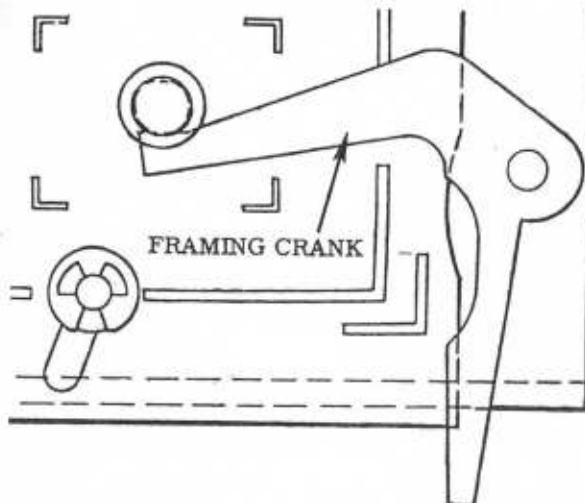

Figure 1-7A. FRAMING CRANK POSITION
c. Place framing crank on same stud. (Position as shown in Figure 1-7A.) Secure in position with two washers (4) and retaining ring (5).